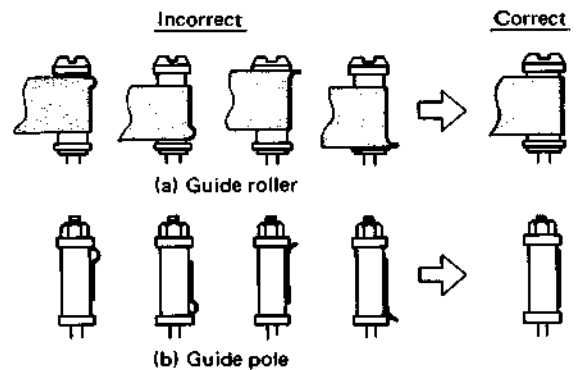
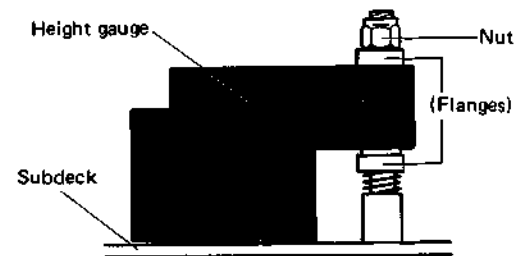
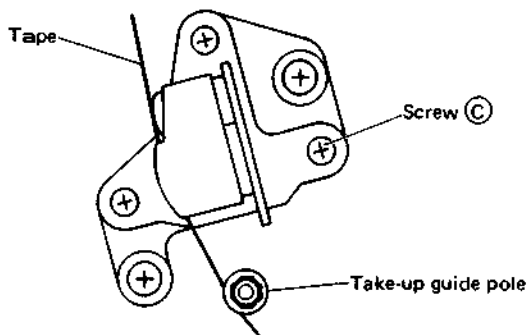

Fig. 4-27 Guide roller and guide pole
Fig. 4-32 Guide pole height adjustment
Fig. 4-34 Take-up guide pole
2. Operate the machine between Play and Stop modes several times. During Loading and Unloading, observe the tape at the supply and take-up guide rollers and guide poles. Confirm absence of curling, wrinkling, etc. as shown in Fig. 4-27.
Confirm absence of curling, wrinkling, etc. as shown in Fig. 4-27.
1. Set the height gauge on the subdeck as shown in Fig. 4-32.
2. Use a metric nutdriver to turn the supply guide pole to align the upper flange of the guide pole with the upper edge of the tape as shown by (b) of Fig. 4-27. However, this adjustment must be performed so that at the same time, the upper flange remains within  $\pm 0.5$  mm of the height adjusting jig portion shown in Fig. 4-32.
2. Turn audio/control head screw (C) as shown in Fig. 4-34 and adjust for smooth transport at the take-up guide pole as shown by (b) of Fig. 4-27.